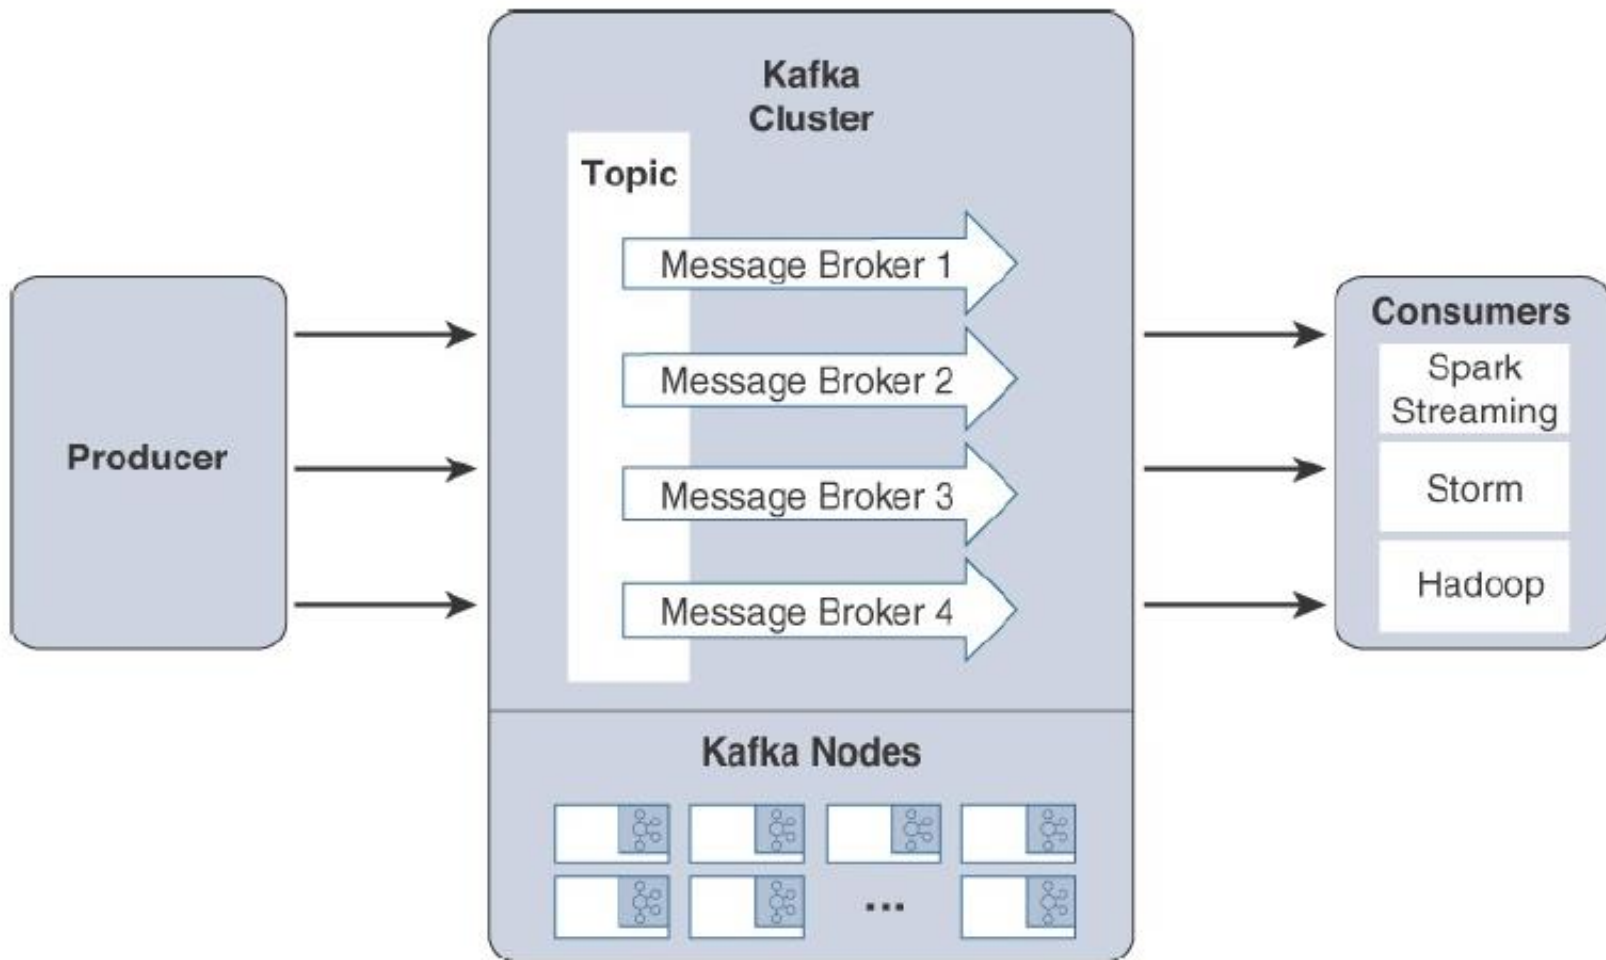

Figure 7.10 : Apache Kafka Data Flow
- The figure 7.10 shows the *data flow from the smart objects (producers), through a topic in Kafka, to the real-time processing engine*.